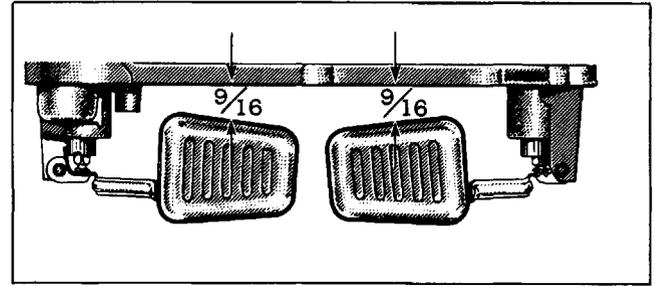

Fig. 6B-65 Float Drop
- c. **Float Drop Adjustment:** With bowl cover held in upright position and measuring from center of float, the distance between top of floats and bowl cover should be  $\frac{9}{16}$ " for both primary and secondary floats (Fig. 6B-65). Adjust by bending stop tabs on float brackets.